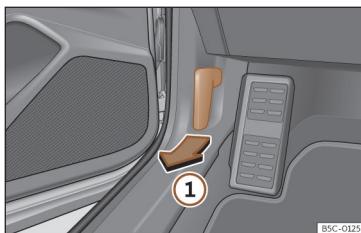

Fig. 216 Release lever in the driver's footwell area.
- Open the door and pull the lever that is underneath the instrument panel >>> **Fig. 216** ①.